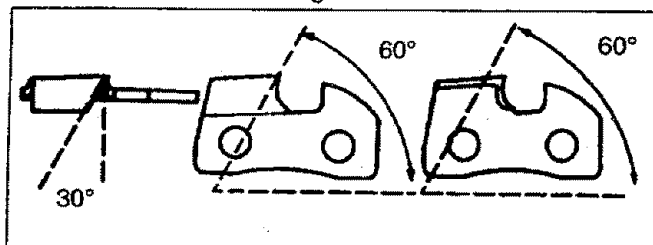

Figure 27
- File chain to meet the specifications shown below. See Figure 27.